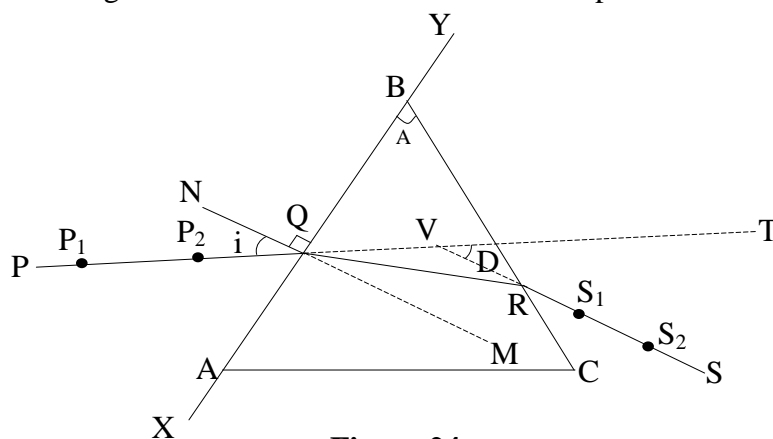

Figure 24
- (c) Draw a line PQ whose angle of incidence, i ($\angle PQN$) is 30° is as shown in Figure 24.
- (d) Place the triangular prism vertically with the triangular base down on the paper so that the midpoint of the edge AB of the prism coincides with the midpoint Q of the line XY as shown in the Figure 24. Draw the outline ABC of the prism.